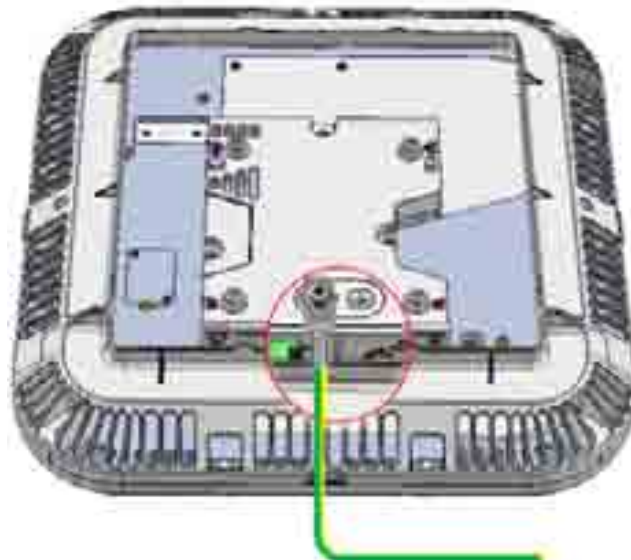

Figure 5-77. Grounding Bolt Location
2. Connect the earth ground to the RAU using one of the provided 8-32X3/8 screws. See grounding bolt location circled in Figure 5-77.